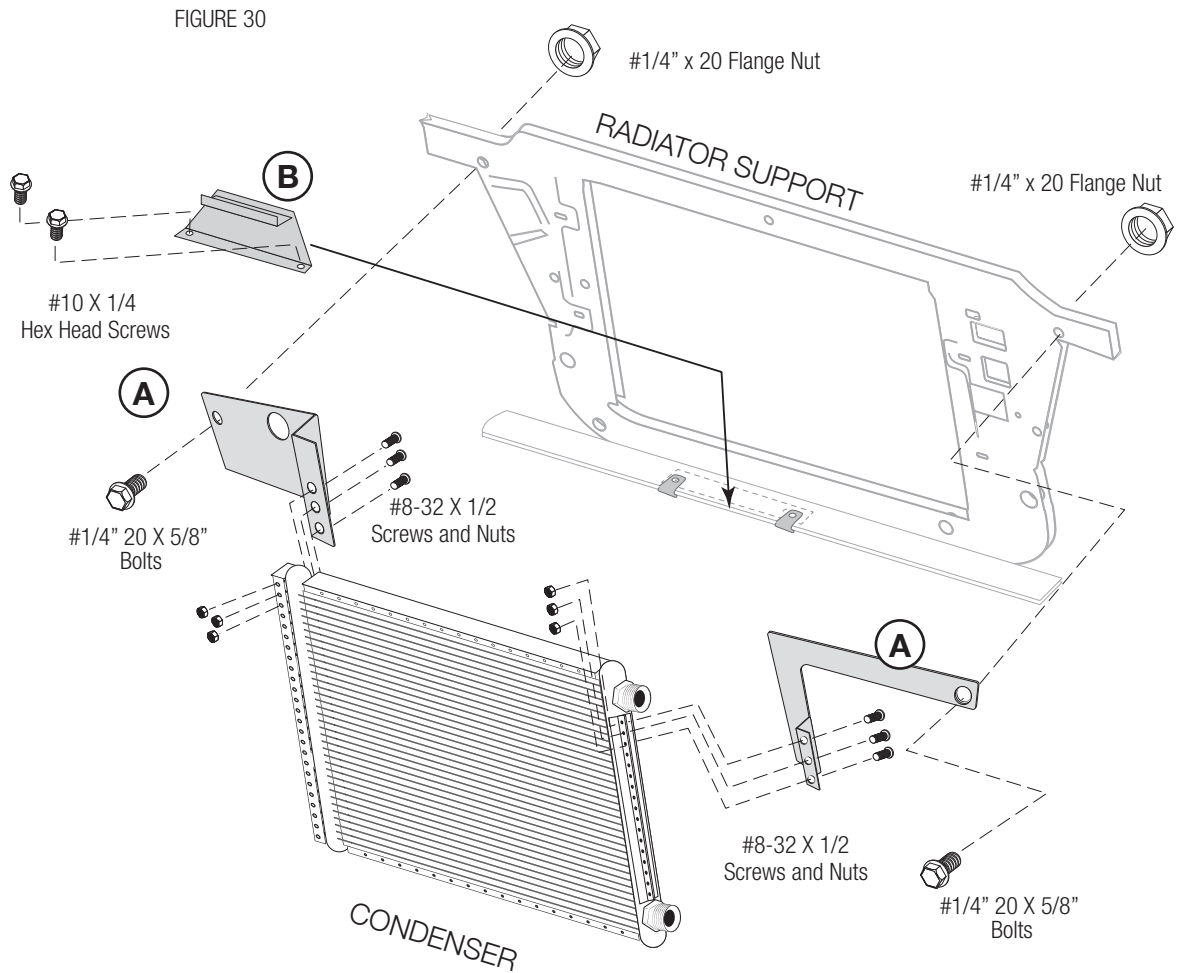

FIGURE 22
STEP FIVE: You can perform most of the following steps on a clean flat surface like a workbench. Lay the condenser down so that both hose connections are on the left side (the larger connection will be on top). Install the upper condenser brackets (A) using the included #8-32 x 1/2 screws and nuts. Both brackets are installed at the very top of the condenser, and from the backside. These brackets have holes that exactly correspond to bolts that are in the OEM radiator support (see figure 22).
STEP SIX: We've included a new lower condenser bracket (B). Locate the lower mounting bracket to bottom rail in front of the radiator. Attach two 1/4"-20 j-clip to the frame rail over the existing holes, and secure with two 1/4" x 20 x 5/8" hex screws. Peel back off of MDS03 insulation and attach to bracket channel (see figure 22).
STEP SEVEN: Place the condenser into place and secure with a 1/4"-20 x 5/8" hex head screw and a 1/4 x 20 flange nut thru the existing holes in the radiator support on both sides (both brackets are secured in the same way, see figure 22).